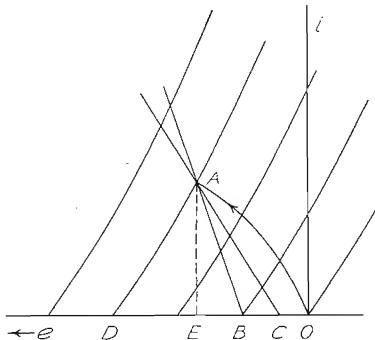

Fig. 6.
In Fig. 6 is shown the construction. The net voltage at the moment under consideration is  $CD$ . The voltage  $Z_L \Sigma i_{CL}$  is laid off from the origin as  $OB$ . Through  $B$  is drawn  $BA$  to represent the finite operator  $Z_L$ . Then  $AC$ , which represents the finite operator  $(Z + Z_L)$ , is slid parallel to itself until its intersection with  $AB$  in  $A$  is also that of a diode rectification curve  $AD$ , such that  $DC$  equals the net voltage  $(e_e - Z_L \Sigma i_{CL} - Z \Sigma i_C = e_n)$ . Then  $AE$  equals  $i_T$ ,  $DE$  represents the diode voltage drop  $i_T r_d$ , and  $EO$  equals  $(i_T Z_L + Z_L \Sigma i_{CL})$  or  $e_2$ , the voltage across the diode load. In addition, it is evident that Eq. (17) is satisfied. The important point to note is that  $r_d$  is here a family of curves, and hence the proper member of the family must be selected. This has been done by drawing  $Z_L$  or  $AB$  at a distance  $BO$  ( $= Z_L \Sigma i_{CL}$ ) from the origin  $O$ , so that point  $E$  will be distant from  $O$  by the amount  $e_2$ , the voltage across the diode load.
Below: Fig. 6. Howard 437.